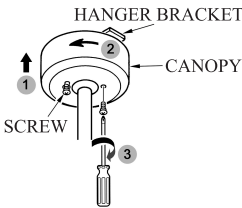

FIG.10
4. Mount the canopy on the two screws in the hanger bracket and twist the canopy, so the screw heads hold the canopy in place. Retighten the two screws. (see Fig.10)